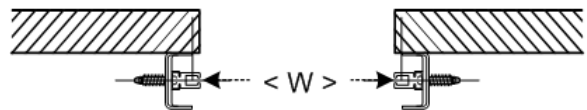

Figure 13: Check Inside Dimension Measurement
6. Continue to adjust the door's position until it is absolutely plumb and level (Figure 13).